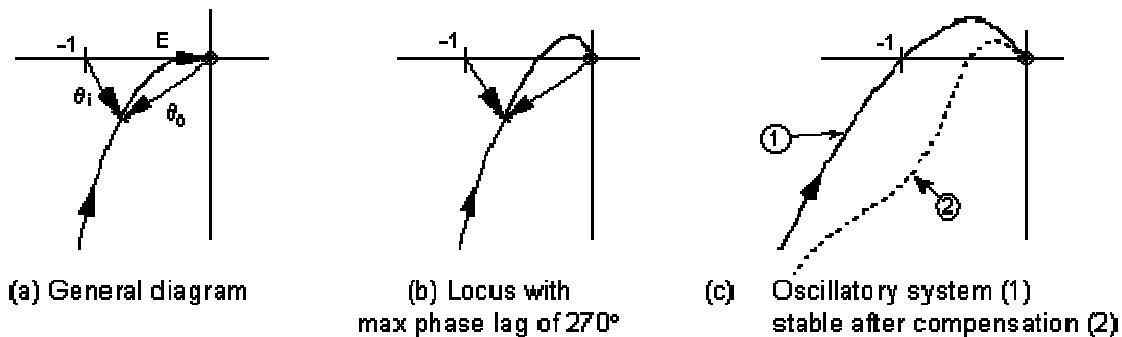

Figure 23-1: Nyquist Diagrams for System Design
In application the error (E) is assumed unity and the origin of the frequency response locus taken as the origin, giving Figure 23-1 (a).
The closeness of the frequency response locus to the “-1” point indicates the magnitude of frequency of the frequency response peak and hence the form of the step response. If the system has an additional time constant in the forward path the maximum phase lag will be 270° with the form of Figure 23-1 (b). If the locus passes through the “-1” point, as in Figure 23-1 (c), which would occur for Figure 23-1 (b) if the gain is increased, the system oscillates.
These networks (a 3-term controller for example) modify or re-shape the overall frequency locus to give adequate clearance of the “-1” point, perhaps as shown dotted in Figure 23-1 (c) above. Detailed investigation of such methods is beyond the scope of an introductory manual but would be covered in any general book on control systems.